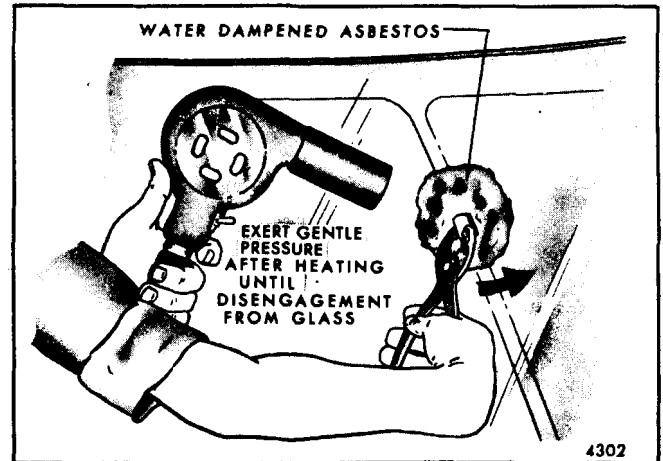

Figure 4-11-Removal of Bonded Rear View Mirror Support From Glass
3. From inside of glass, heat mirror support with an air blower type heat gun to 250 to 350 degrees; then, carefully exert gentle sideward pressure on support with pliers until it disengages from glass, as shown in Figure 4-11.